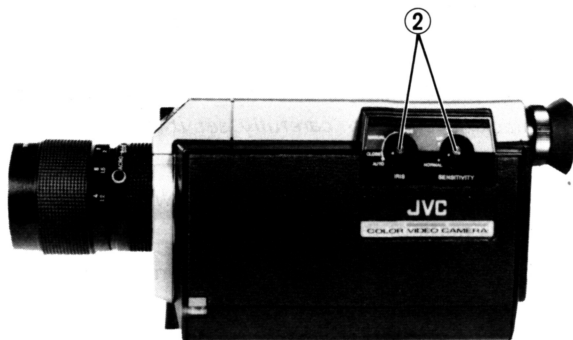

Fig. 3-2
2. Take out two screws ② from the knobs (see Fig. 3-2).